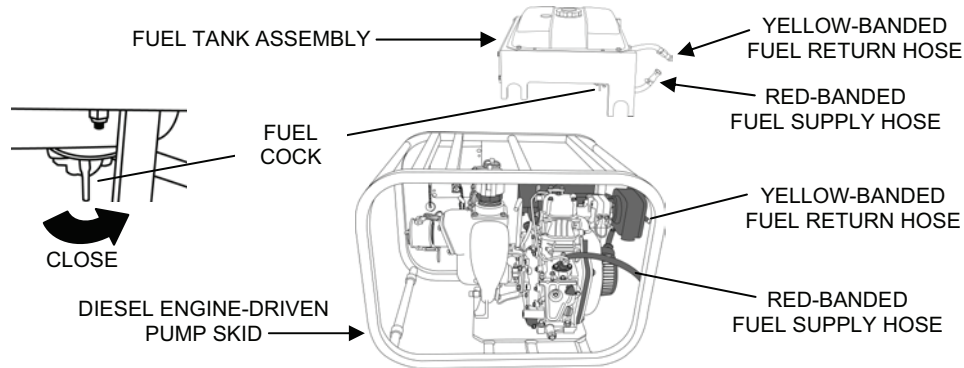

Figure 1. Diesel Engine Fuel Tank Assembly Removal.
- a. On the fuel tank assembly, close the fuel cock and uncouple the fuel supply and return line quick disconnect couplings (see Figure 1).